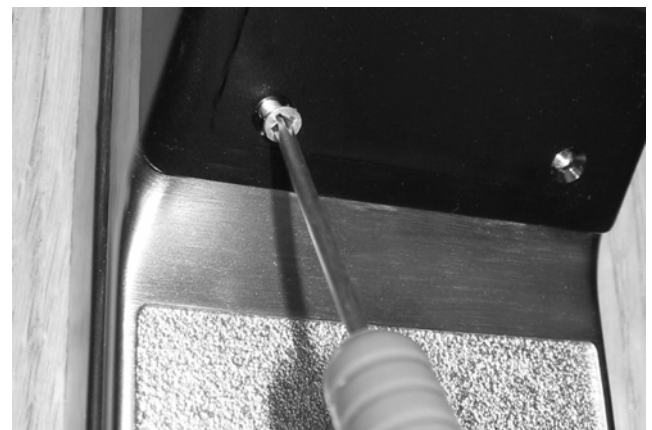

FIG. 19: SECURE BATTERY COVER
8. Secure the battery cover to the inside housing with two black 4-40 x 1/4 flat head Phillips or spanner head security screws. See Fig. 19.